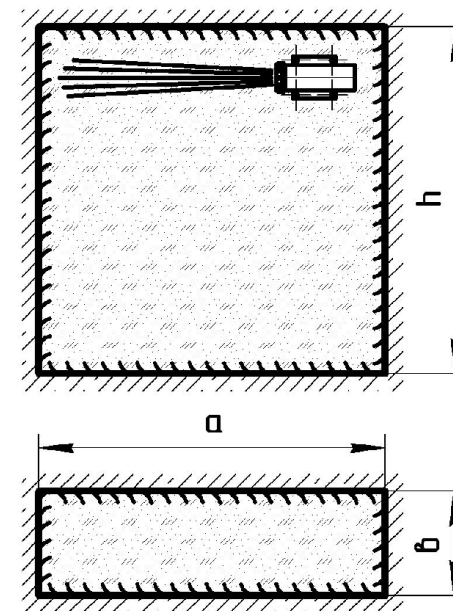

Figure 3
6.5 The configuration of powder spraying and the area image, where smothering is achieved, are given in Figure 3 and in Table 2.